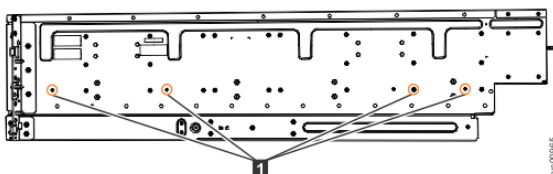

Figure 44. Screw locations to attach the inner rail to the enclosure
4. Use four M4 screws to attach the inner rail to the side of the enclosure. Figure 44 on page 85 shows the screw locations.